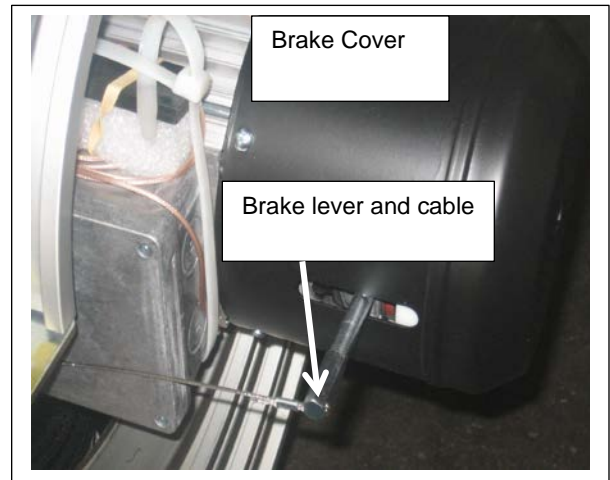

**Figure 83**
Located at the top of the left or right side column is the Spiral door wireless antenna bracket assembly. (See figure 83.)
10. Mount the new antenna to the bracket, the tan cable **MUST** exit towards the floor from the antenna (as shown in figure 83).